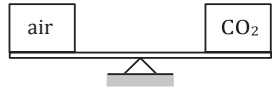

FIGURE P2.5.
5. Air is collected in a 1.2 m³ container and weighed using a balance as indicated in Figure P2.5. On the other end of the balance arm is 1.2 m³ of CO₂. The air and the CO₂ are at 27°C and atmospheric pressure. What is the difference in weight between these two volumes?